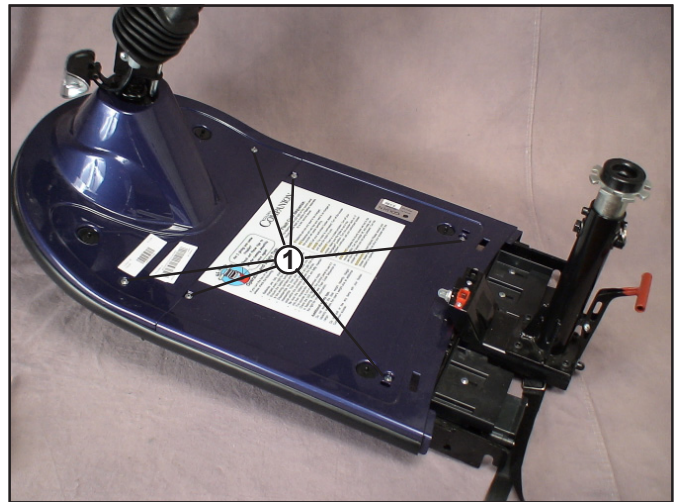

Figure 30. Floorboard and Front Shroud
7. Remove the eight (8) screws that fasten the back shroud to the tiller.
9. Remove the four (4) screws that fasten the front tiller shroud and the basket bracket to the tiller.
11. Remove the six screws that fasten the floorboard and front shroud to the front frame **(See #1 on figure 30.)**